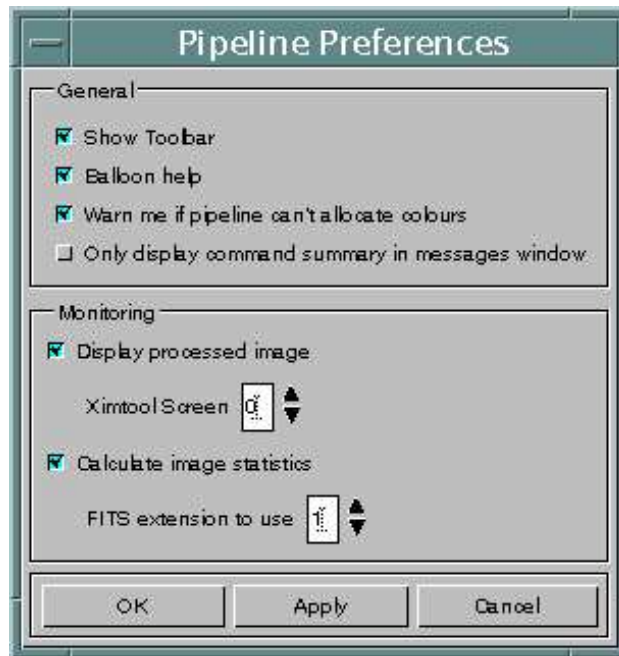

Figure 3: Pipeline Preferences Window
2. Choose *Preferences...* from the *Settings* Menu. You should see the preferences window appear - Figure 3